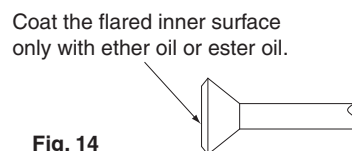

Fig. 14
- When making a flare connection, coat the flared inner surface only with ether oil or ester oil. **(Refer to Fig. 14)** Then, turn the flare nut 3 to 4 times with your hand and screw in the nut.